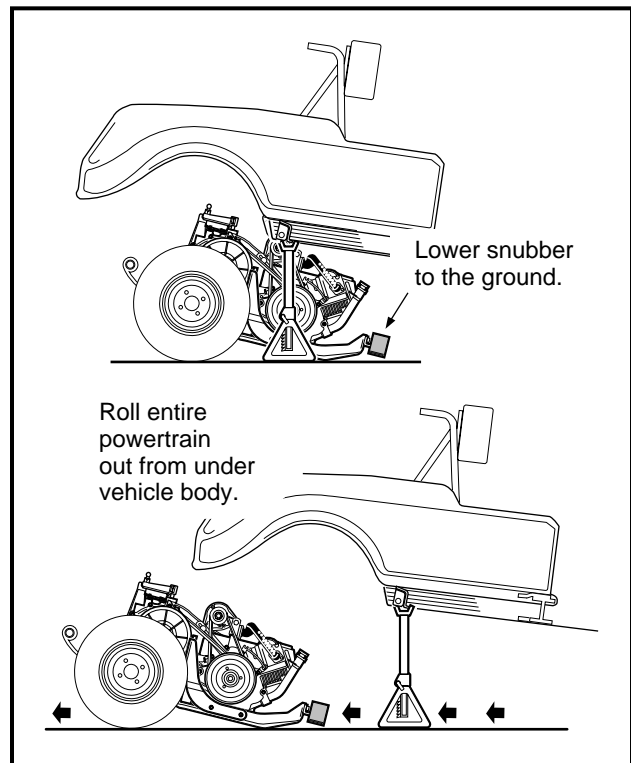

Figure 16-29 Remove Powertrain
13. Grasp the ends of the leaf springs at the rear of the vehicle and roll the drivetrain out from under the vehicle (**Figure 16-29, Page 16-12**).